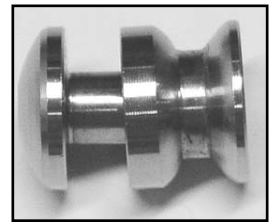

Figure 3
2. Repeat for the Lower Spool. **Figure 3**